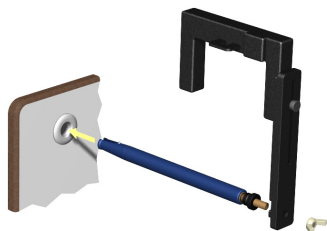

Figure 4: Mounting the Photogate Head (ME-9498A) to the support panel.
3. Remove the wing nut from the threaded peg and slide the photogate bracket onto the threaded peg (see Figure 4).